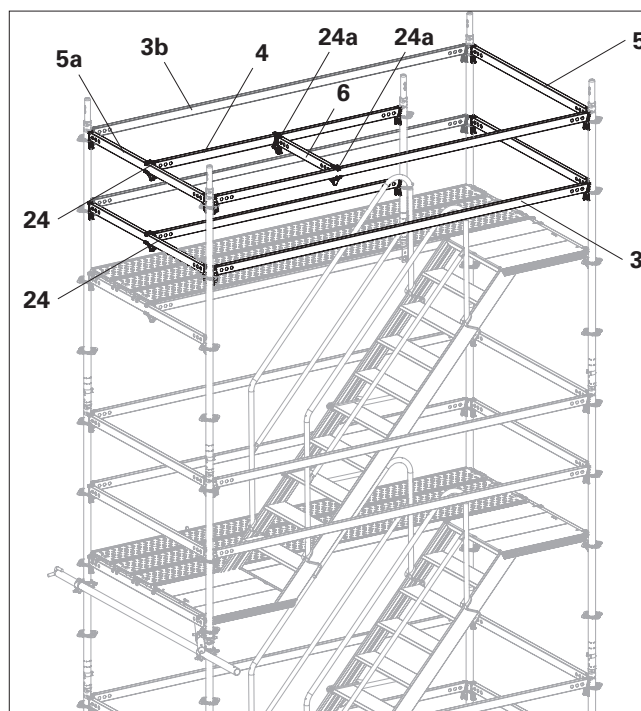

Fig. A5.04
14. For bracing, fit a Horizontal Ledger UH-2 75 (**6**) between the horizontal ledgers (**3 + 4**) using ledger-to-ledger couplers (**24a**). (Fig. A5.04)